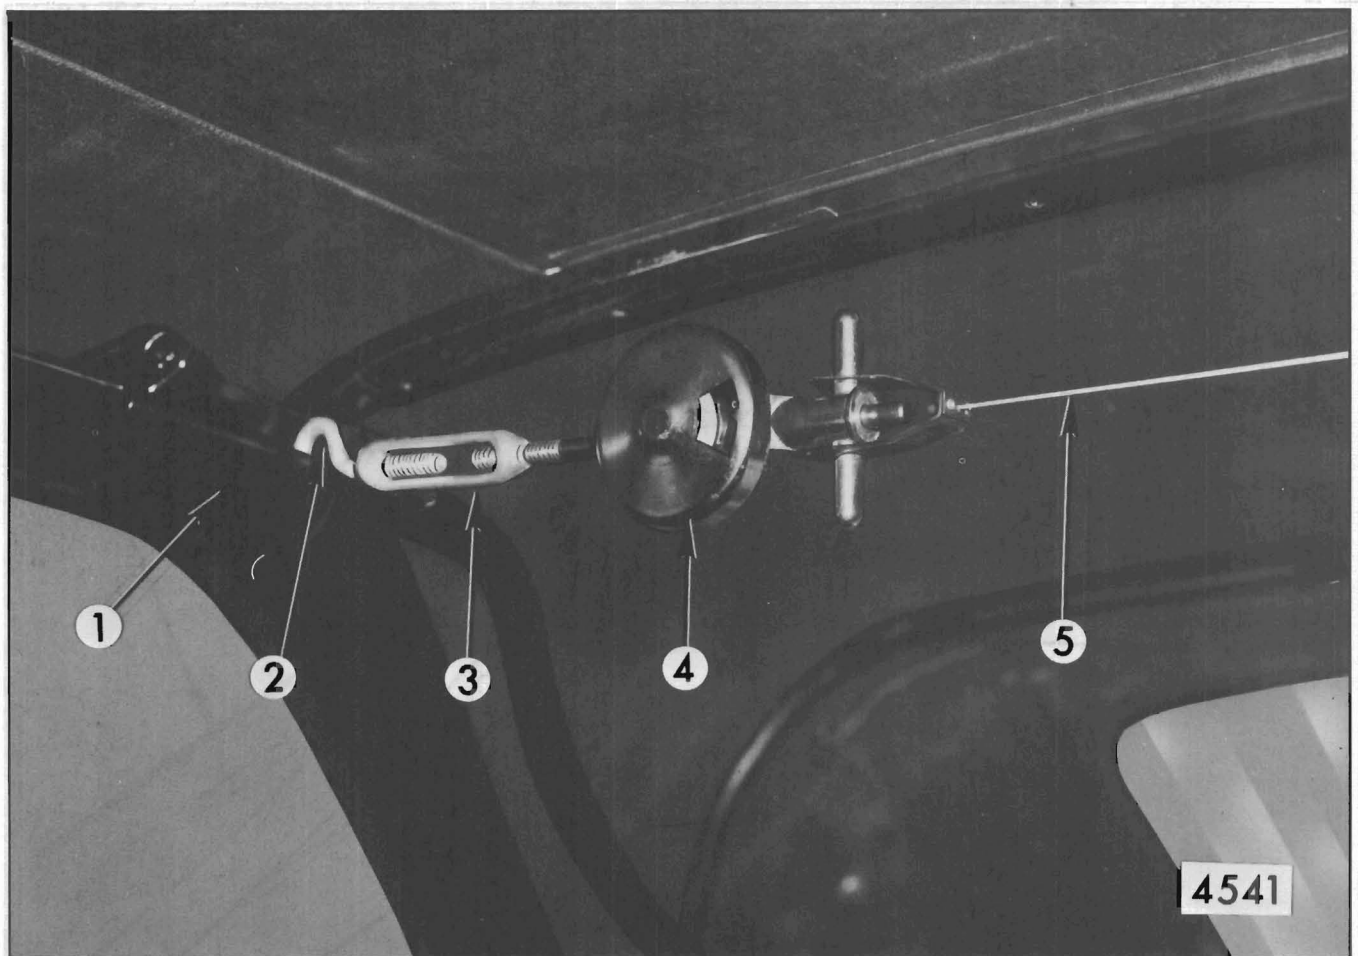

Fig. 27-Inward Folding Top Tension Checking Tool
The outward force exerted by each side rail is adjustable and can be measured accurately at the center bow area in the car. Figure 27 illustrates a tension checking tool which is required to measure the tension of side roof rails. Tool J-23790 or BT-7111, (which is shown) or equivalent may be used.
1. With top raised and locked at windshield header, mount tension checking tool (J-23790 or BT-7111, or equivalent) on each inner rear rail at center bow (Fig. 27).